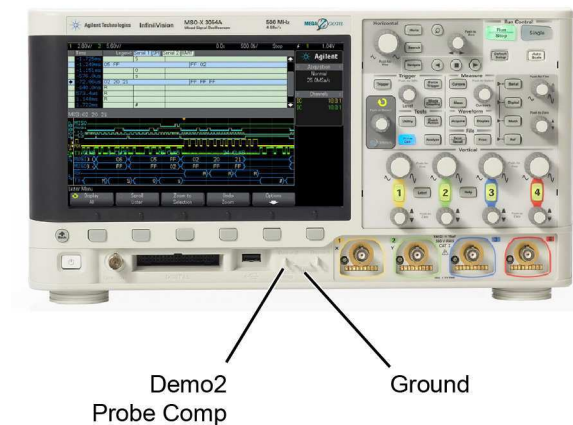

Figure 12 Probe Comp Terminals on 3000 X Series Oscilloscope
- 2 Connect the probe tip to the oscilloscope's front-panel calibration output. For example, on 2000X, 3000X, and 4000X series InfiniiVision oscilloscopes, use the front-panel **Demo 2 / Probe Comp** terminal as shown in **Figure 12**.